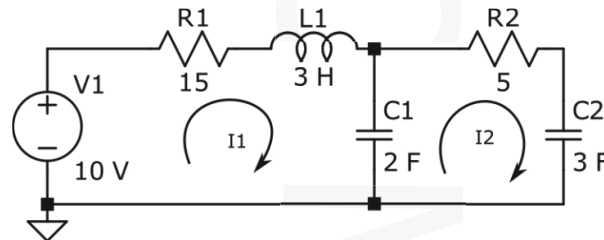

Figure 6: A two loop dynamic circuit (Question 19 (b))
- b) For the two – loop circuit shown in figure 6, assume mesh currents  $i_1$  and  $i_2$  and capacitor voltages  $V_{C1}$  and  $V_{C2}$ . Write the dynamic equations for the meshes in terms of these variables and develop the simulation diagram using basic blocks (summer, gain, integrator etc.). Assume  $V_{in}$  as the input constant dc excitation and the two capacitor voltages and the inductor currents as the output variables. 10